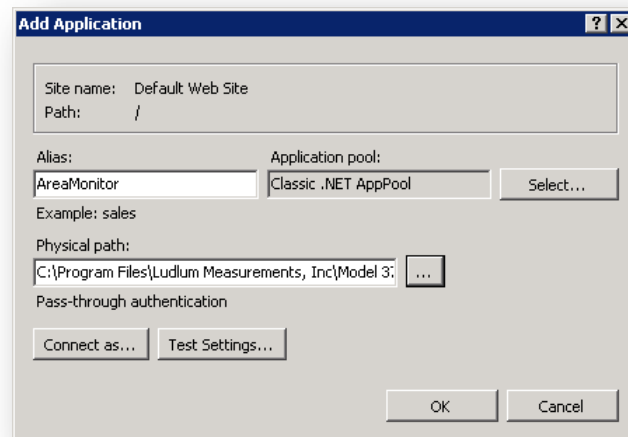

Figure 87 – Add Application
4. In the left pane of the IIS Manager window, click on the right arrow next to your computer name, then click on the right arrow next to the “Web Sites” folder. Your screen should resemble Figure 87.